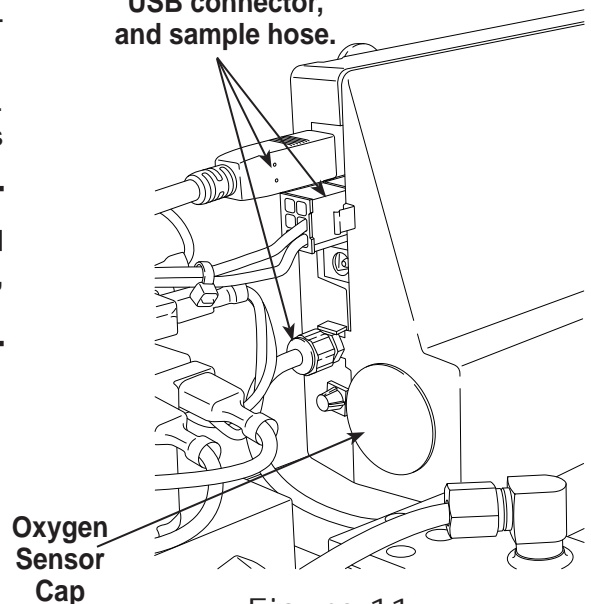

Figure 11
3. Disconnect the wire harness, USB connector, and sample hose from the identifier. See Figure 11.